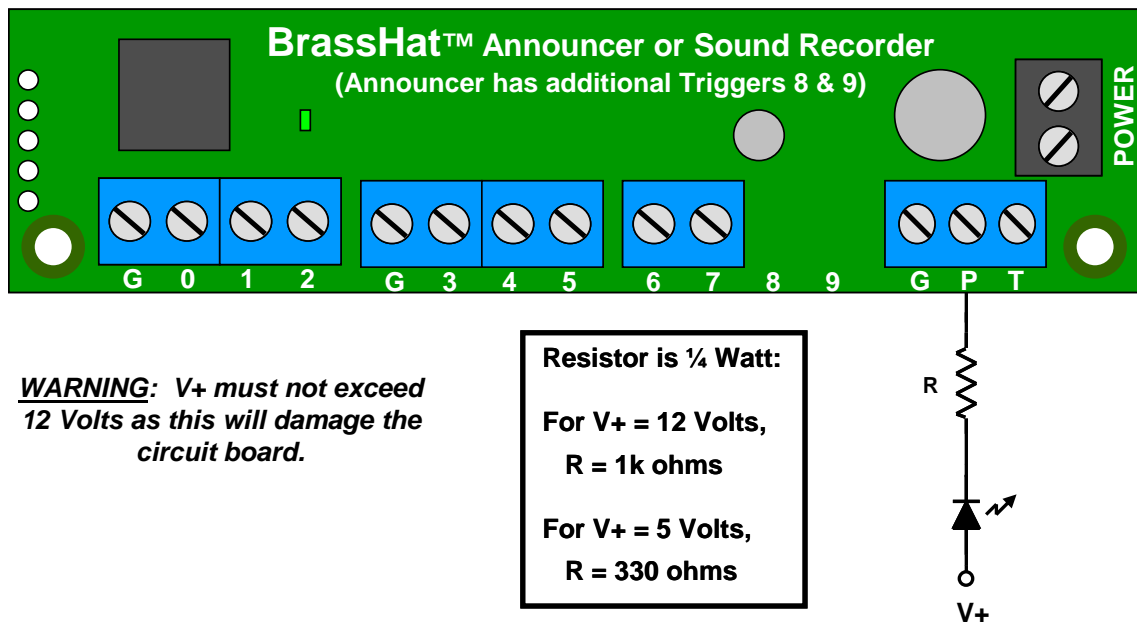

Figure 4: Driving an LED During Playback
Figure 4 shows how the Playing Output (P) from the **Sound Recorder** circuit board can be wired to drive an LED. The Triggered Output (T) can be used similarly to drive a second LED. Resistor value R for common V+ voltages are shown.